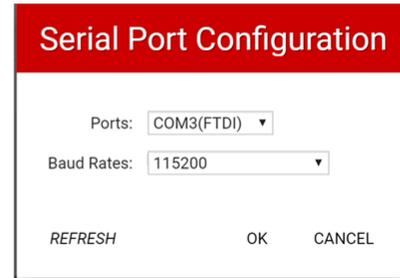

Figure 3. Serial port configuration
- Click Options -> Serial Port. A serial port configuration popup is displayed as shown below in Figure 3.